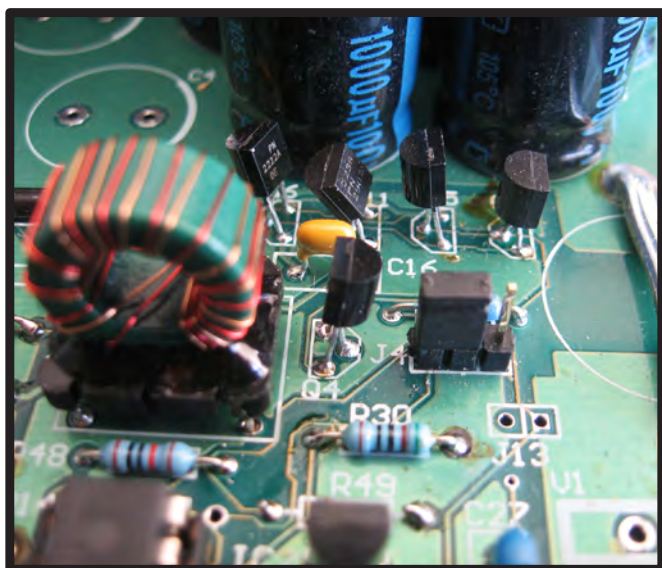

Figure 5 (Above): Vented Battery Setting
4. Shift link on J4 to vented position – see **Figure 5**.